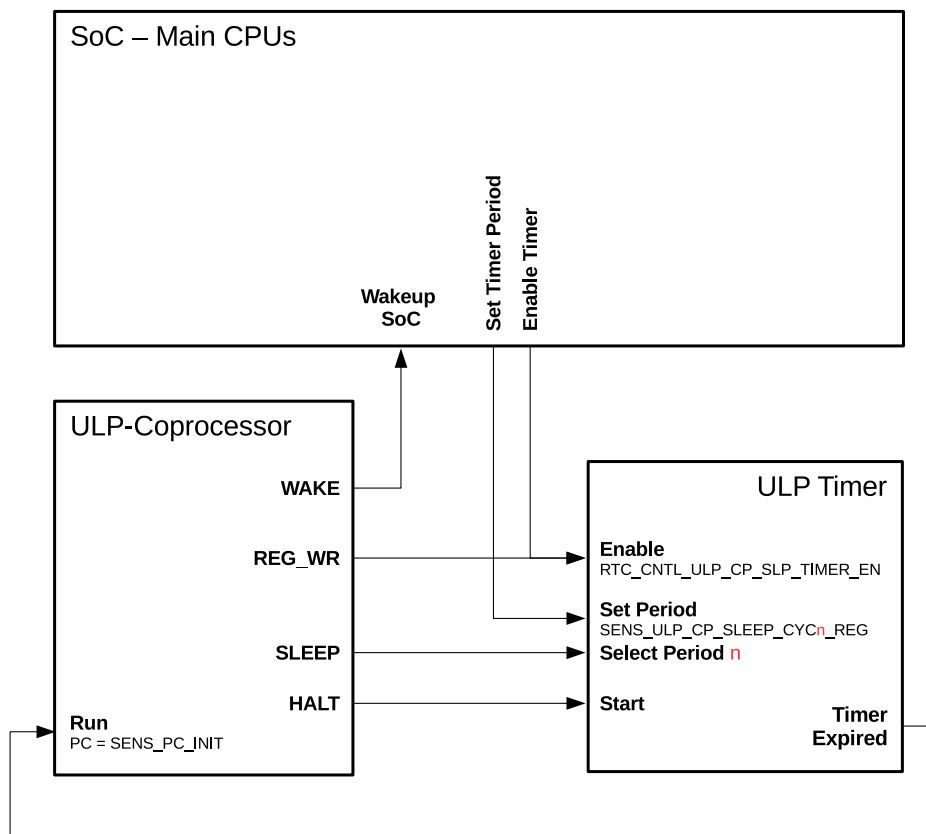

Figure 30-19. Control of ULP Program Execution
The ULP coprocessor puts itself into sleep mode by executing the `HALT` instruction. This also triggers the ULP timer to start counting `RTC_SLOW_CLK` ticks which, by default, originate from an internal 150 kHz RC oscillator. Once the timer expires, the ULP coprocessor is powered up and runs a program with the program counter (PC) which is stored in register `SENS_PC_INIT`. The relationship between the described signals and registers is shown in Figure 30-19.